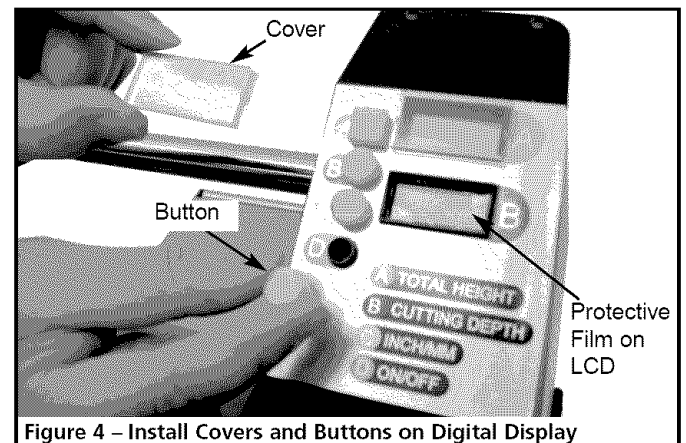

Figure 4 – Install Covers and Buttons on Digital Display
- Using a needle or pin, carefully lift and remove the protective film on the LCD (see Figure 4).